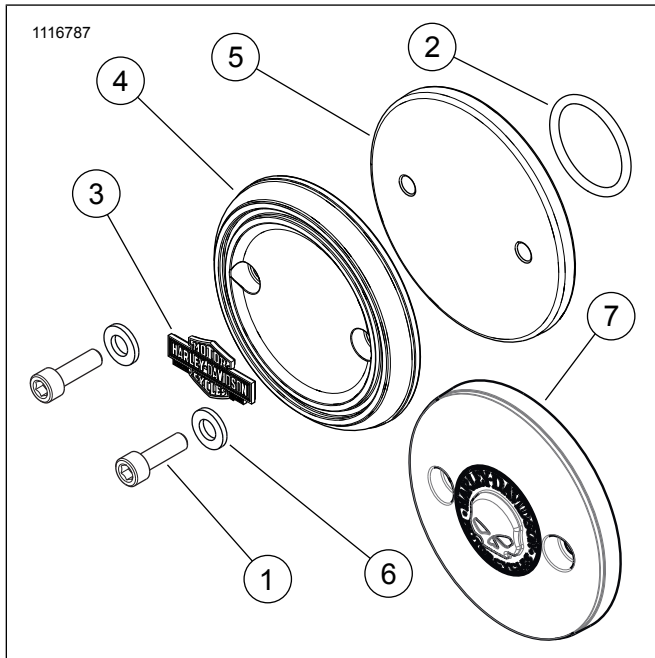

Figure 2. Service Parts: Alternator Access Cover Kit
See Figure 2 and Table 1.
- **For kit 25800091 or 25800114:** See Figure 2. Use screws (1) included in the kit.
1. See Figure 2. Install **new** O-ring (2) on the spacer (5) (if installing Kit 25800091) or on the **new** alternator access cover (4 or 7).
2. **For kit 25800114:** Install washers (6) onto screws (1).